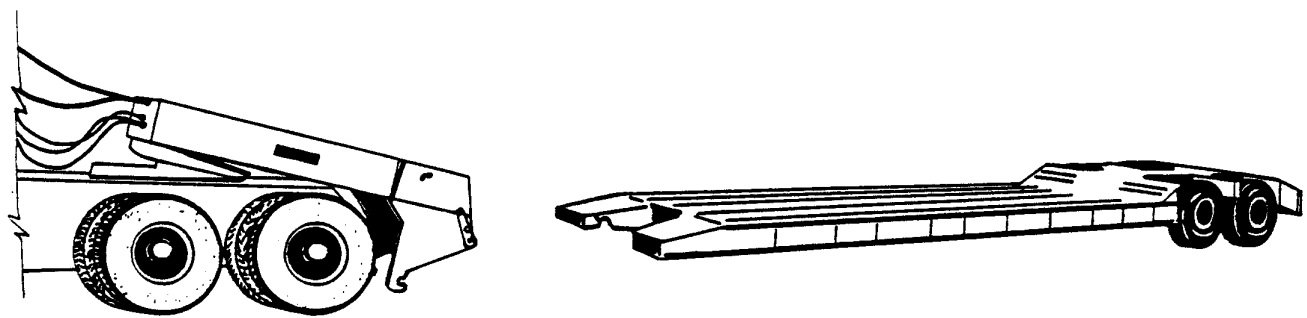

FIGURE 2
- 3.2 When floats equipped with removable goose-necks are loaded or unloaded, the goose-neck shall be removed and the equipment loaded or unloaded from the front of the float. Figure 2.